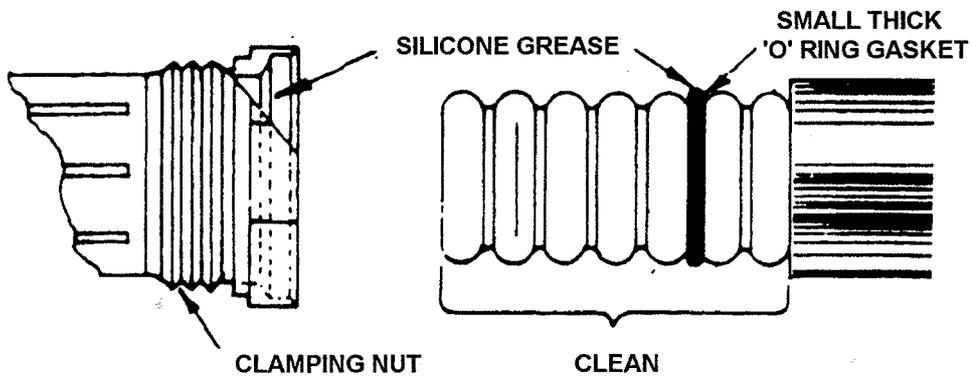

Figure 3.58. Installing the Gasket
- c. Clean the outer conductor with solvent and then add the small thick 'O' ring gasket to the second fully exposed corrugation groove from the jacket (see Figure 3.58). Apply a thin coating of silicone grease to the outer surface of the gasket and the gasket lead chamfer in the clamping nut, using the fingertip.